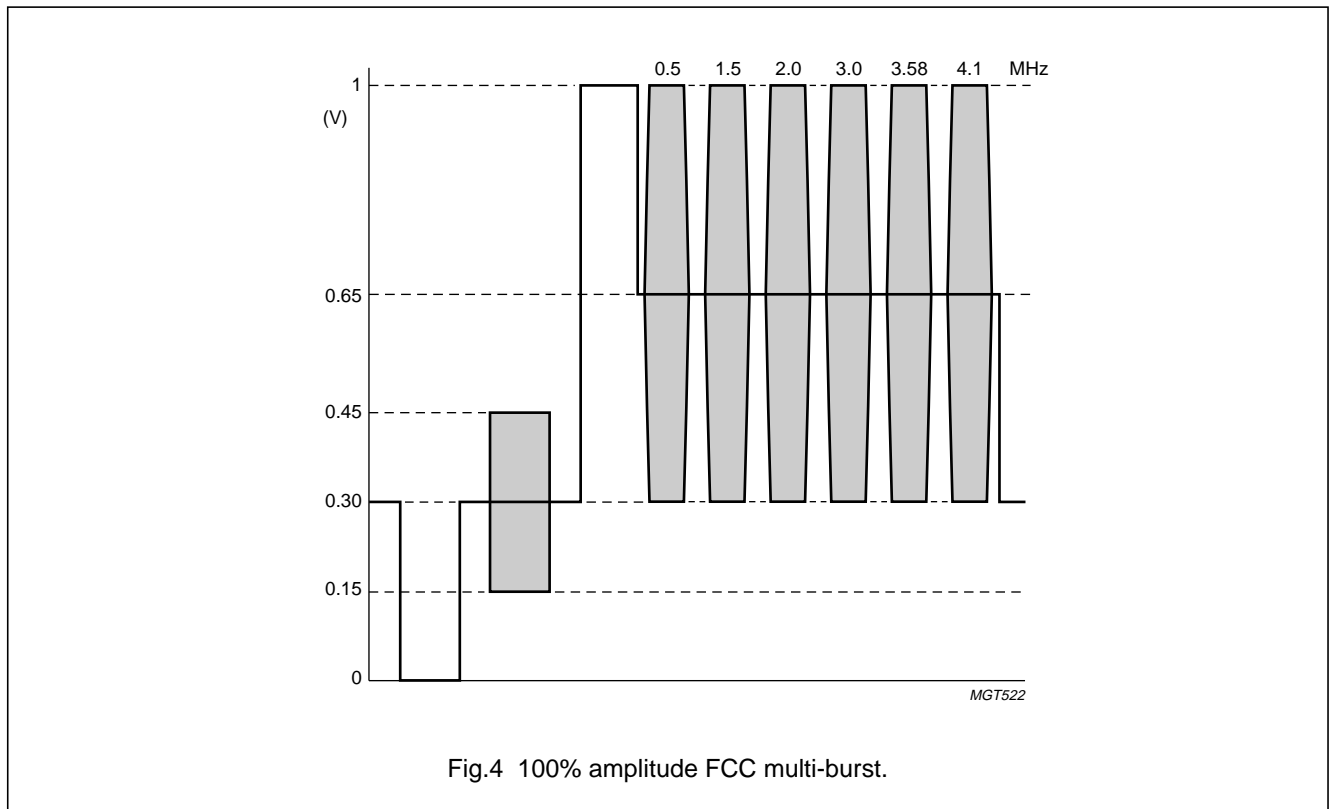

Fig.4 100% amplitude FCC multi-burst.
5. Test signal for NTSC M: 100% amplitude FCC multi-burst (see Fig.4).